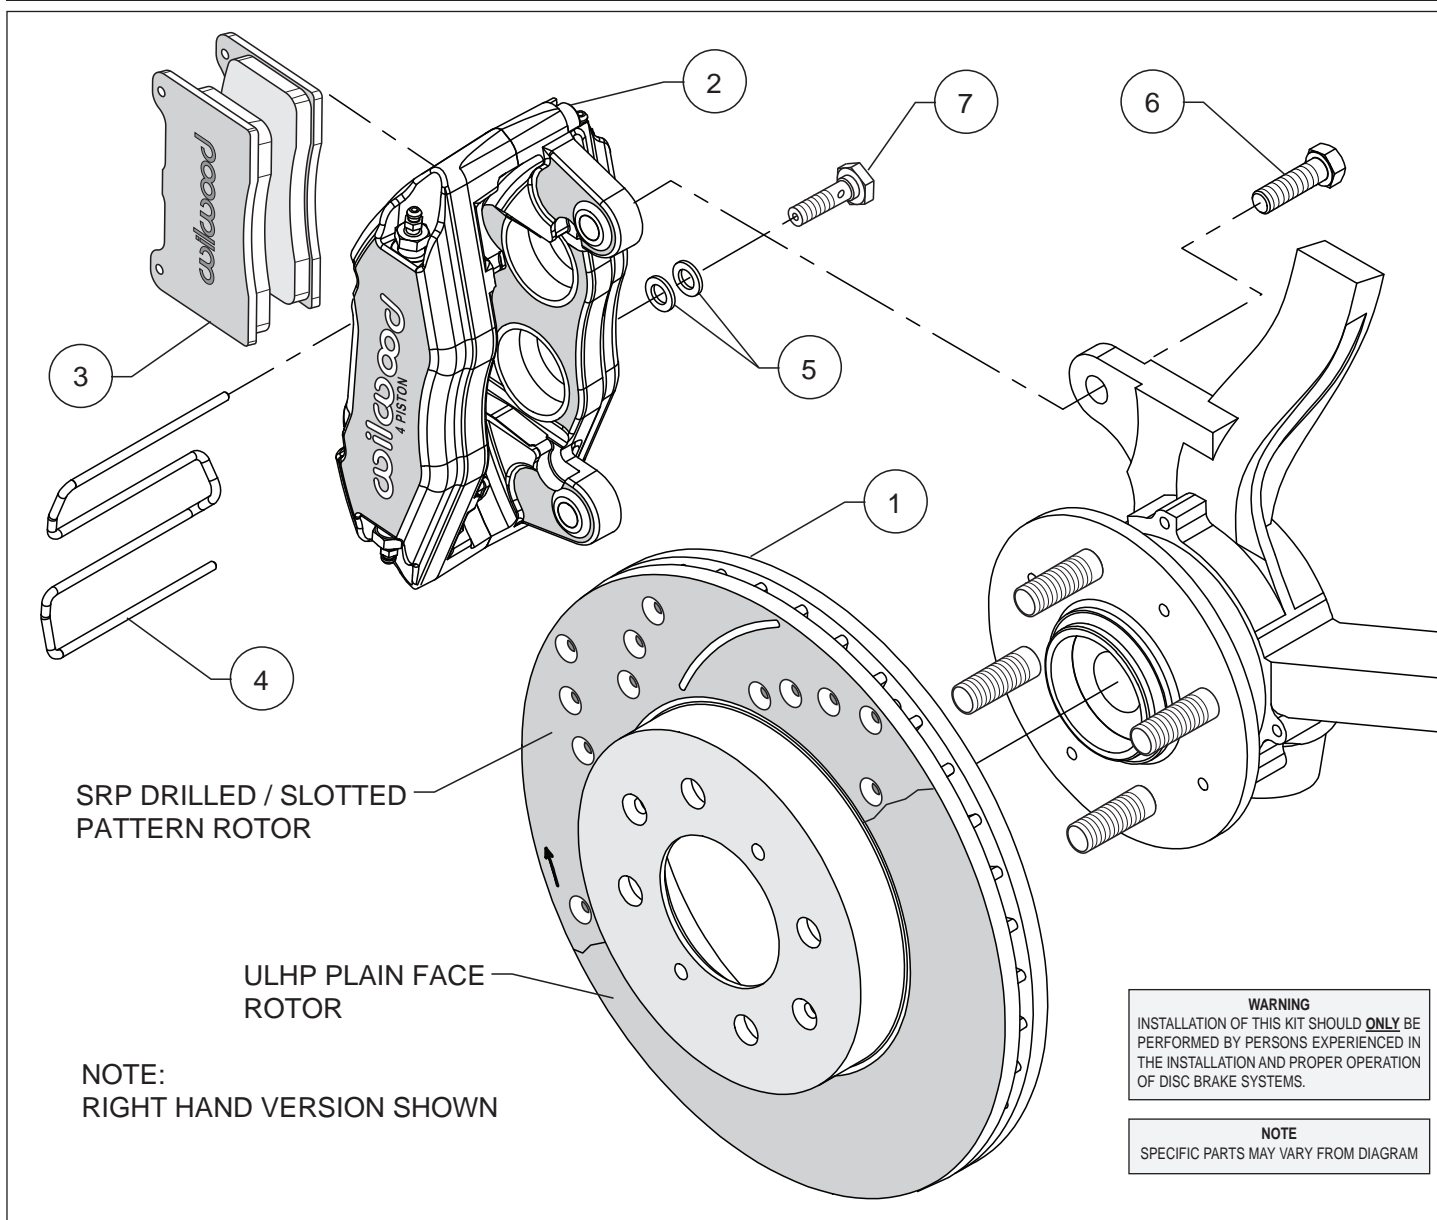

Figure 1. Typical Installation Configuration
Assembly Instructions (numbers in parenthesis refer to the parts list and Figure 1 on the preceding page):
• Slide the hat/rotor (1) onto the axle hub. **NOTE:** The hat must fit flush against the axle hub flange or excessive rotor run out may result. Install three lug nuts (finger tight) to keep the hat/rotor in place while continuing with the installation.
• Mount the new Wilwood caliper (2) onto the axle hub caliper mounting bosses using bolts (6) as shown in Figure 1. Apply red *Loctite*[®] 271 to the bolt threads and torque to 60 ft-lbs.
• Install the disc brake pads (3) into the caliper, with the friction material facing the rotor (1), and secure in place using pad clip retainer (4), Figure 1.